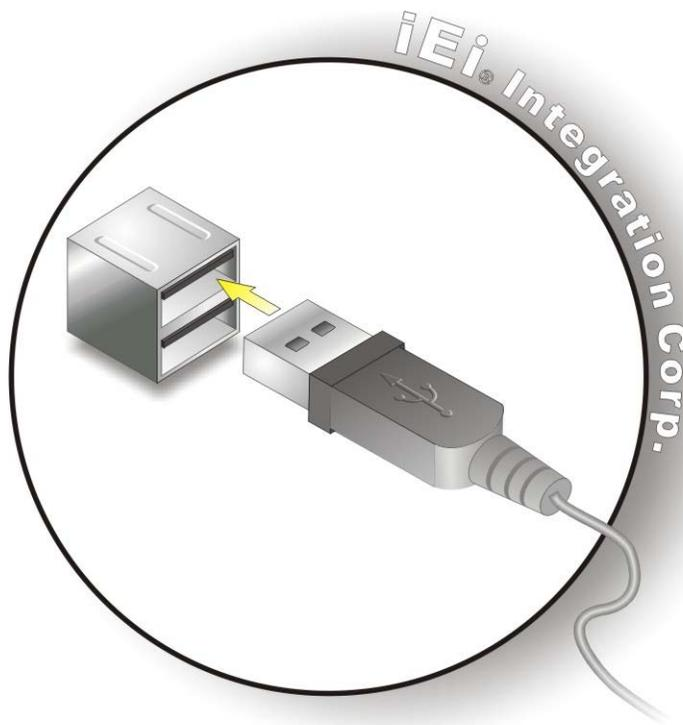

Figure 4-17: USB Connector
Step 2: Insert a USB 2.0/3.0 plug. Insert the USB 2.0/3.0 plug of a device into the USB 2.0/3.0 on the external peripheral interface. See Figure 4-17.